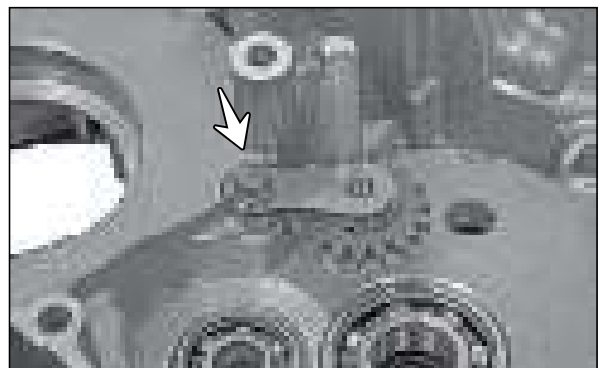

Fig. 3.163
- Remove hexagonal bolt (M6x16 - 1 No.) from the bracket idler gear mounting and dislocate the bracket idle gear. (Fig. 3.163)